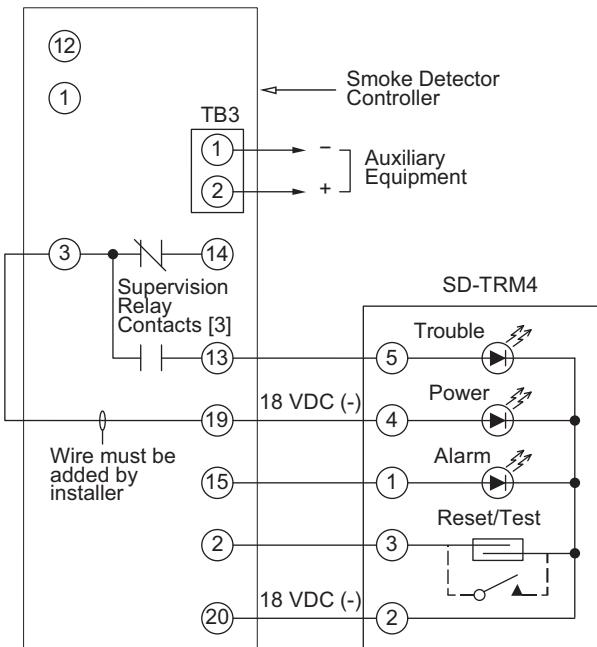

Fig. 44 — Remote Test/Reset Station Connections
The test/reset station dirty sensor test checks the test/reset station's ability to initiate a sensor dirty test and indicate the results. It must be wired to the controller as shown in Fig. 44 and configured to operate the controller's supervision relay. For more information, see "Dirty Sensor Test" on page 25.
1. Verify that the remote test/station is wired as shown in Fig. 44. Repair or replace loose or missing wiring.